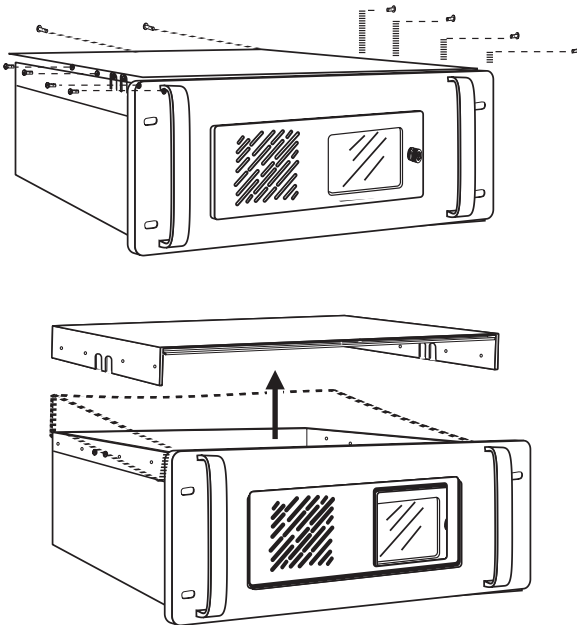

Figure 1. Removing the CC1 Top Cover
2. Install the VGA card in the CC1. Refer to Figures 1 and 2 and do the following: